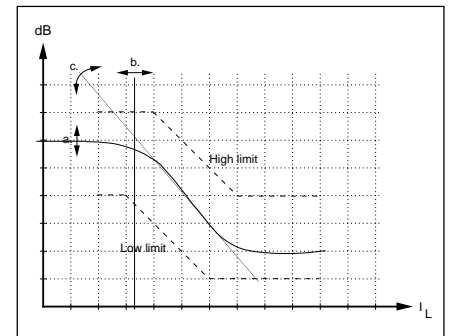

Figure 12. Gain regulation principle.
3. Set the attac point where the line length regulation is supposed to cut in (R1 and R2). Note that in some countries the line length regulation is not allowed. In most cases the endresult is better and more readily achieved by using the line length regulation (line loss compensation) than without. See fig. 12.
There is a fixed default compensation on the chip that can be adjusted or set to constant high or low gain mode. The input impedance at the gain regulation pin 6 is  $5.5\text{k} \pm 20\%$ . The default regulation pattern is valid when the input is left open. Fig. 12 shows a typical transmitter or receiver gain pattern versus line length. The following will show, what to alter, to change the look of the curve.